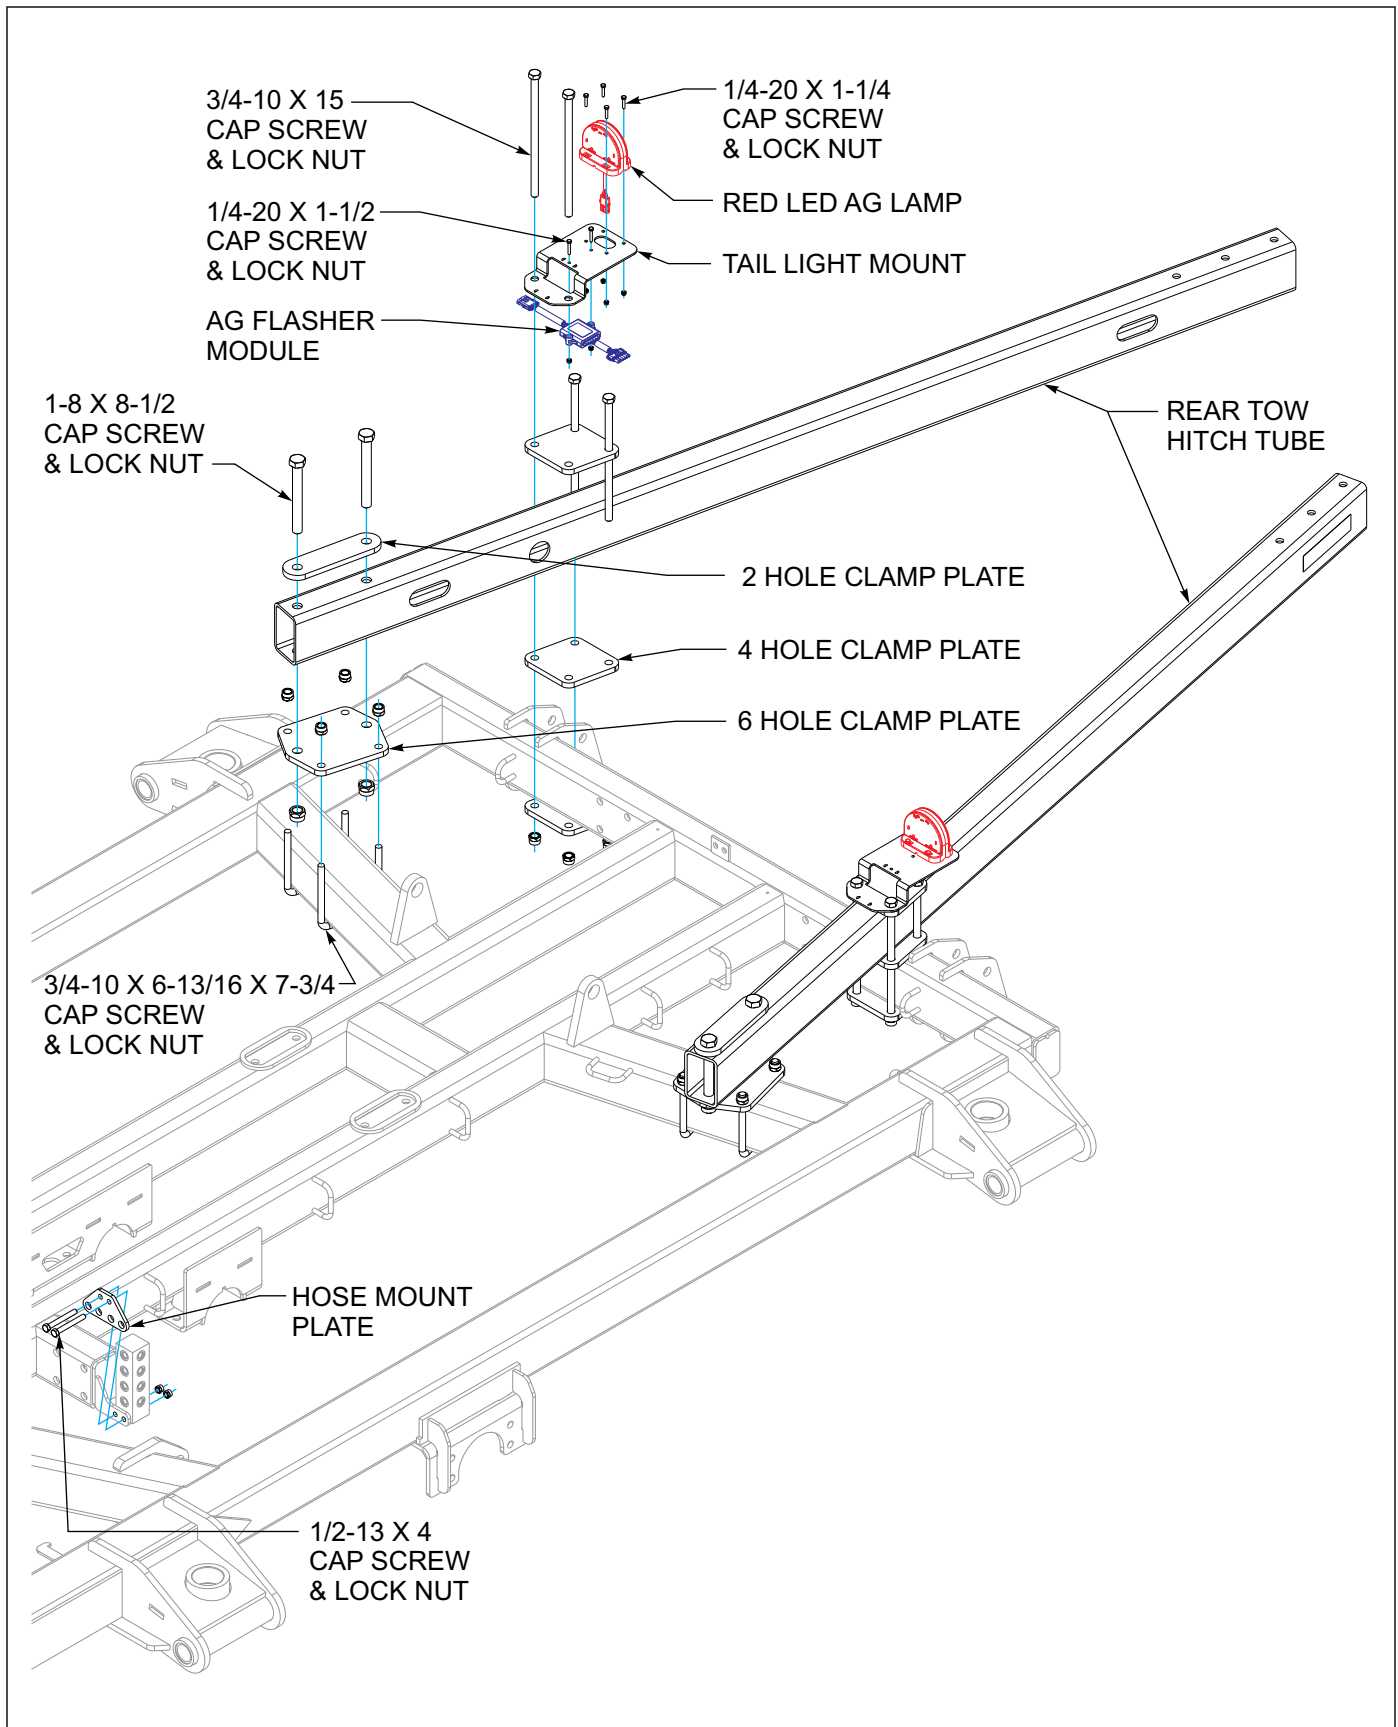

Figure 3-55: Rear Tow Hitch Installation (1 of 2)
The red led ag lamps, ag flasher module and tail light mounts will need to be removed from rear tube of center frame. The ag flasher module and red led ag lamps will be re-installed to the new tail light mounts as shown (See Figure 3-55.)
10. Attach rear tow hitch tubes with plates and secure with 1-8 x 8-1/2 cap screws and lock nuts, on angle tubes of rear of center frame in position shown (See Figure 3-55.).
11. Attach plates, ag flasher module, tail light mount, red led ag lamp to rear tube of center frame in location show with hardware shown (See Figure 3-55.)